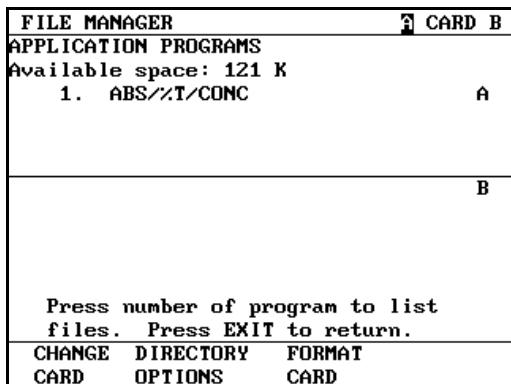

Figure 2-2 File Manager screen
When you select **File Manager** from the **Main Menu**, a screen like the one shown in *Figure 2-2* appears.
2. With the **File Manager** screen (Figure 2-2) displayed on the screen of your instrument, press the number of the directory containing the file you want to transfer. For example, to transfer files in the **ABS/%T/CONC** directory, press **1**. A screen appears listing the names of the available files.
2. With the **File Manager** screen (Figure 2-2) displayed on the screen of your instrument, press **DIRECTORY OPTIONS**. A screen appears listing the available directories.